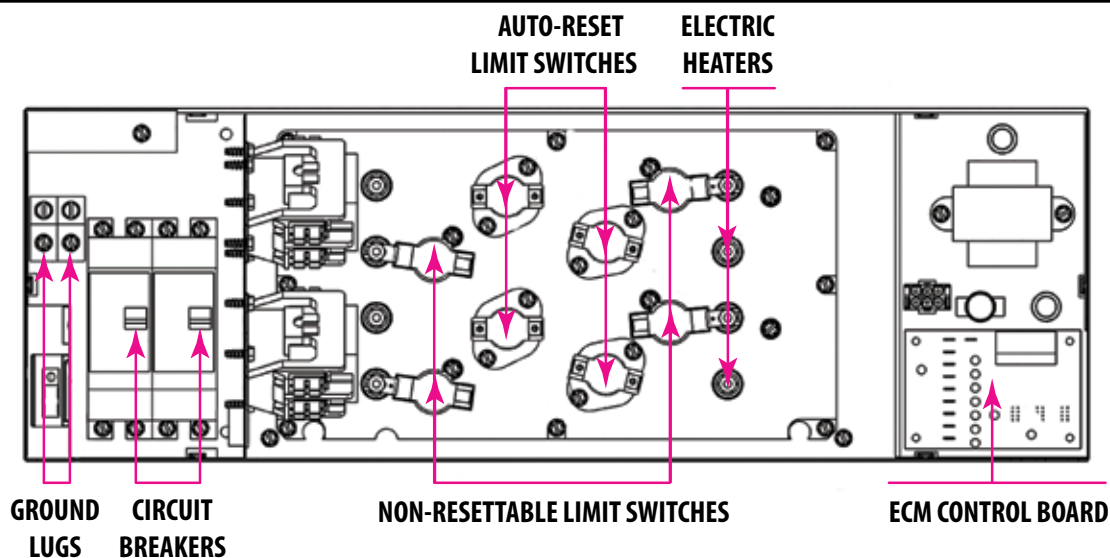

Figure 15: Component Locations – Electric Heat Control Box
8. If a single circuit is being used for a 5 kW, 10kW, 15kW or 20kW model, install a BLACK jumper wire from the L1 terminal on circuit breaker #1 to the L1 terminal on circuit breaker #2 and a WHITE or RED jumper wire from the L2 terminal on circuit breaker #1 to the L2 terminal on circuit breaker #2. Refer to Figures 15, 17, and 18 for circuit breaker locations.